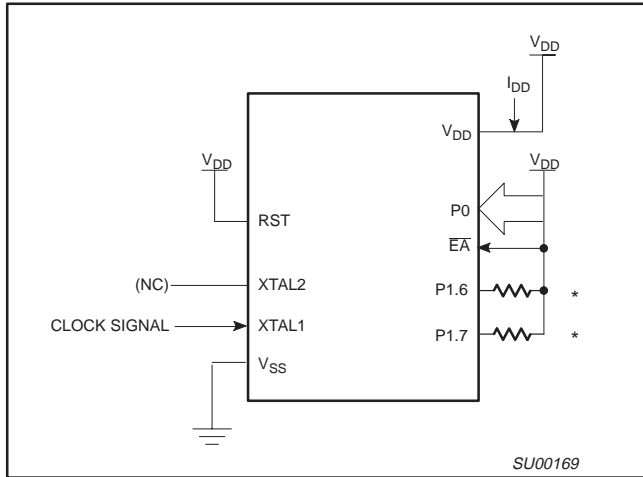

Figure 10. IDD Test Condition, Active Mode
- See Figures 10 through 13 for ICC test conditions.